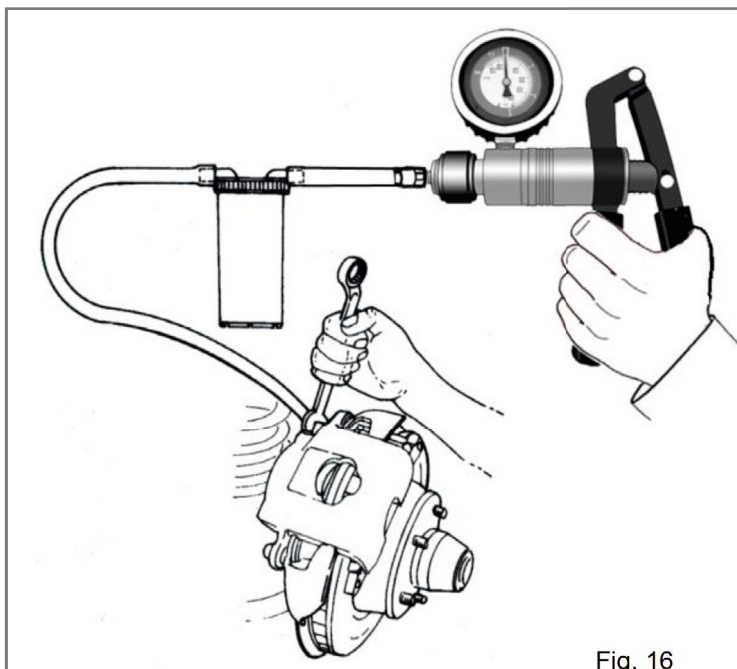

Fig. 16
5. Open the bleed nipple by about a quarter turn (Fig.16). Allow the brake fluid to drain until no air bubbles are visible in the brake fluid in the clear hose.